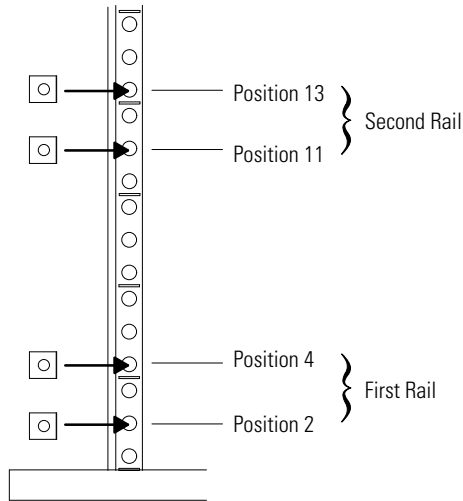
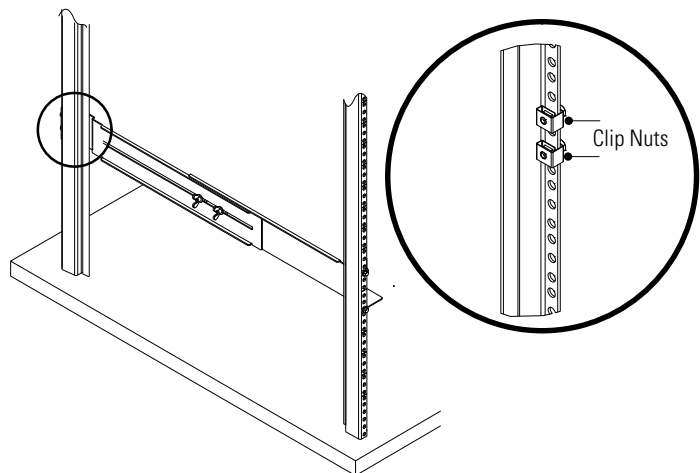

Figure 5. Rear Rail Screw Positions
Figure 6. Securing the Rear Rail
4. Using two clip nuts and two hex-head screws, attach the rail to the rear of the rack (see Figure 5 and Figure 6).